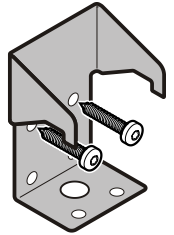

Figure 7
To ensure a secure mounting of the brackets, use any possible mounting option as shown in Figures 7 - 10.
*To ensure a secure mounting of the brackets use any possible mounting option as shown in **Figures 7 - 10**.*
Mounting with wall plugs to concrete walls (**Figure 7**).